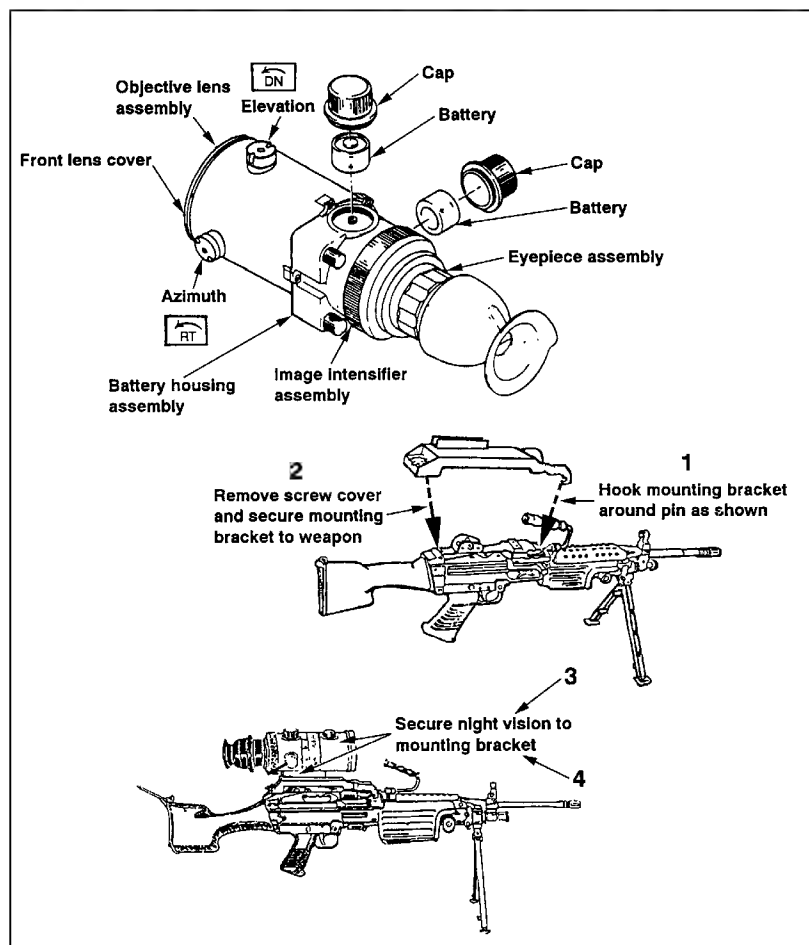

Figure G-54. Mounting the AN/PVS-4 to the M249 light machine gun.
(1) Place the mounting bracket on top of the feed cover mechanism assembly so that the two forked ends are secured around the headless pins.
(2) Remove the screw cover behind the rear sight assembly, and screw the bracket knob in until it is tight.
(3) Position the AN/PVS-4 on top of the bracket so that the mount of the AN/PVS-4 is aligned with the mounting knob of the bracket.
(4) Turn the mounting knob clockwise until the AN/PVS-4 is tight (Figure G-54).